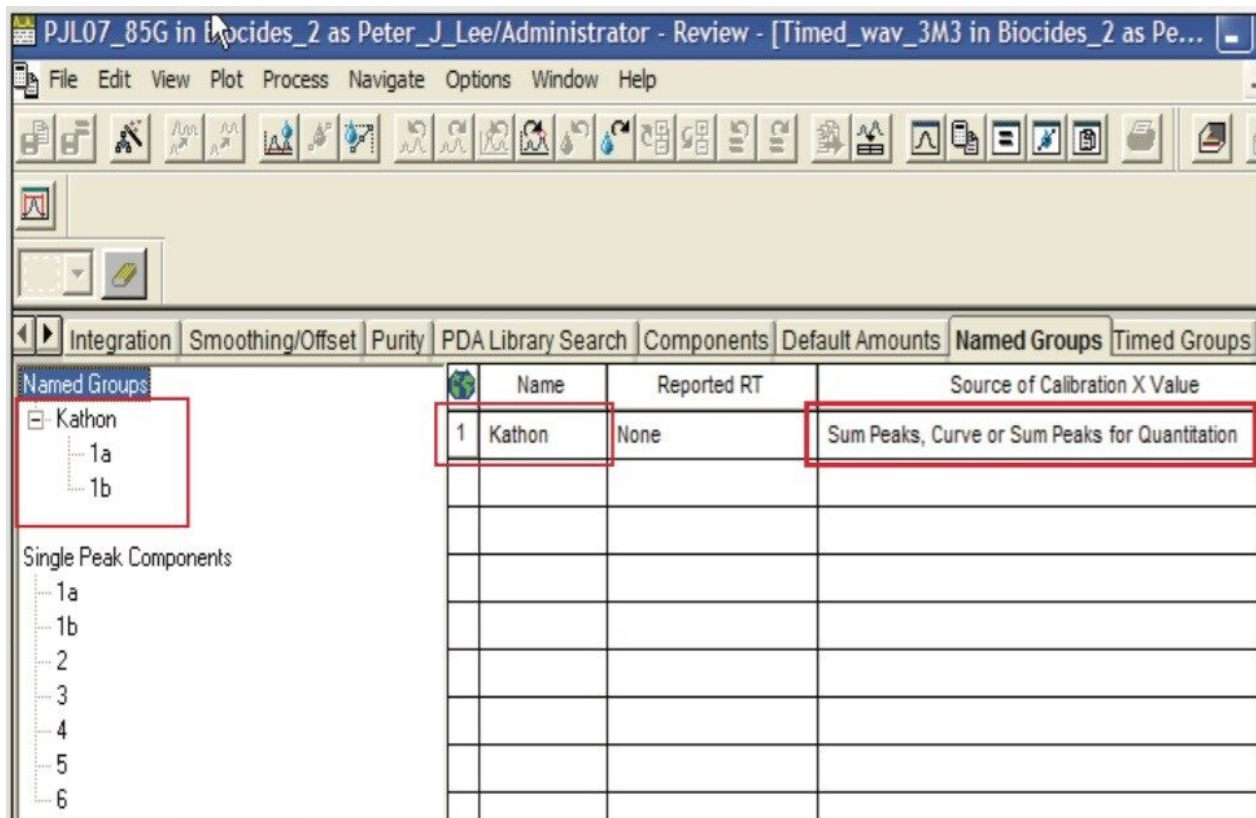

Figure 2. Processing method window.
4. Drag 1a and 1b from Single Peak Components into the tree of Kathon as shown in Figure 2.